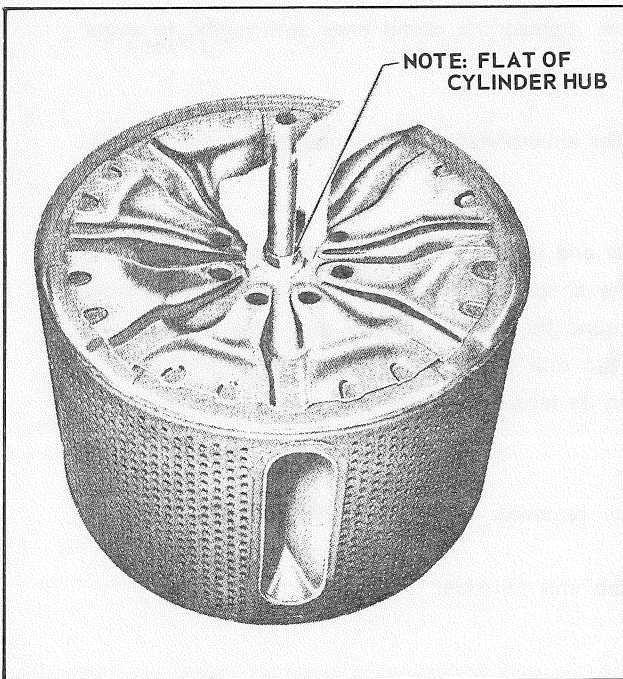

Figure 3-11. Seal Face Installation
4. Install a new seal face as illustrated in Figure 3-11.